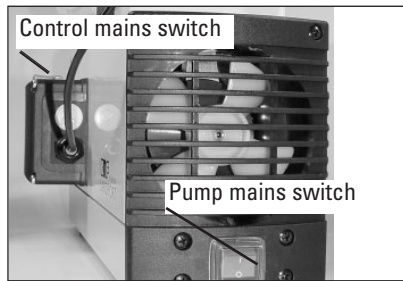
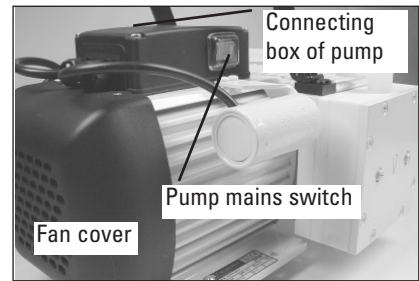
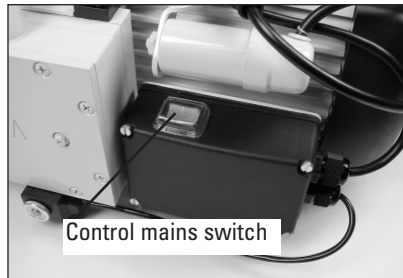

Fig. 2:
Fig. 3:
Fig. 4:
- 2 Switch the pump on at the pump mains switch (see fig. 2; for pump N 860.3 FT.40.18, see fig. 3).
system on at the mains switch of the control box (see fig. 2; for pump N 860.3 FT.40.18, see fig. 4).